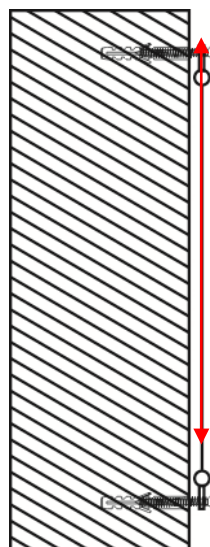

Fig. 7
2. Next, measure distance of the top hook and bottom hook (**Fig. 7**) to determine the height required for the bottom nail or screw installation. Once the bottom nails/screw supports are in place hang the bottom hooks to secure the DIY Wall 2 screen.